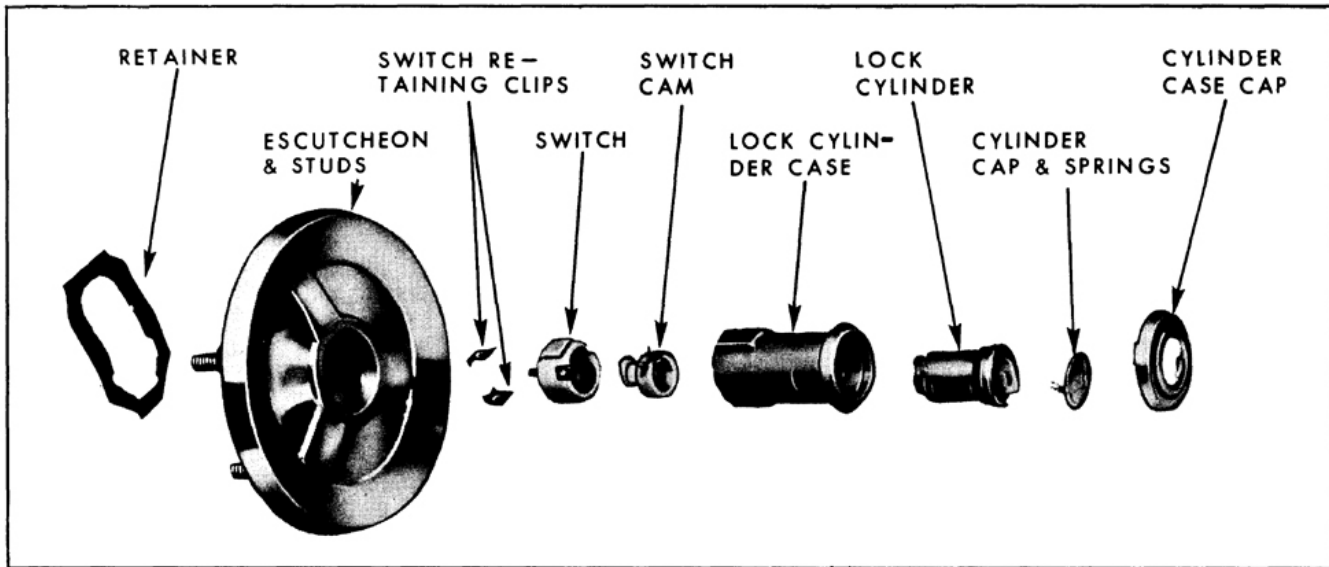

Fig. 16-217 Electric Lock Cylinder and Switch
Removal and Installation (Fig. 16-217)
2. Disengage lock cylinder and switch retainer and remove lock cylinder and switch assembly from escutcheon. (Fig. 16-217)
1. Using a pointed tool inserted through holes in lock cylinder case, depress tab of switch clips and remove clips. (Fig. 16-217)
2. Carefully pull switch and switch cam from lock cylinder case. (Fig. 16-217)